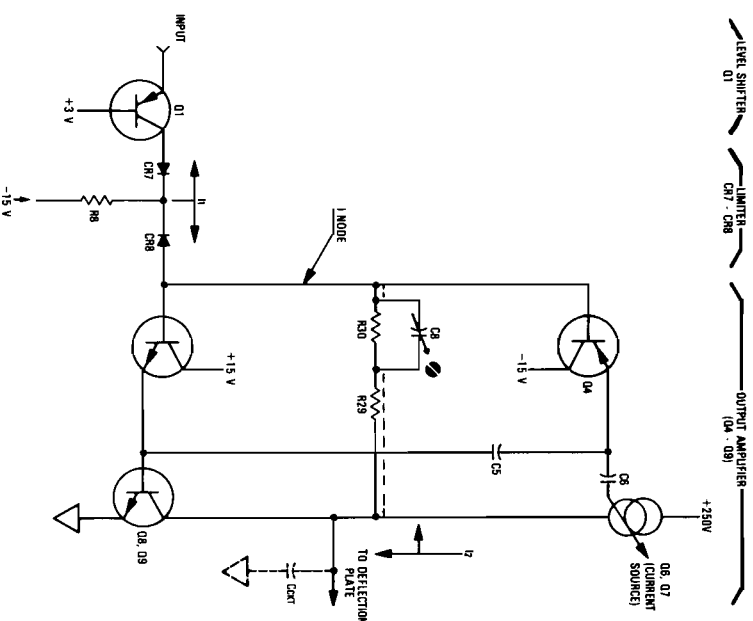

Figure 8-6. Simplified Output Amplifier Schematic
**NOTE:** The output amplifier assembly (A2, A4) consists of two identical amplifiers each driving separate deflection plates. The following circuit description describes amplifier Q4 through Q9 and also applies to amplifier Q10 through Q15. (See figure 8-6, simplified output amplifier schematic).